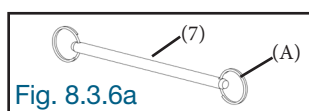
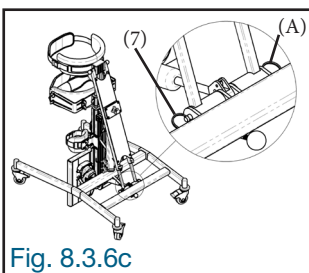
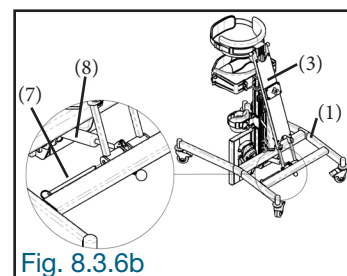

Fig. 8.3.6a
Fig. 8.3.6b
Fig. 8.3.6c
8.3.6 Remove the safety ring (A) from one end of the double-lock pin (7) (Fig. 8.3.6a). Insert the double-lock pin (7) to attach the stabilizer (3) and the cylinder (8) together to the base (1) (Fig. 8.3.6b). Reinsert the safety ring (A) removed earlier at the end of the double-lock pin (7) (Fig. 8.3.6c).